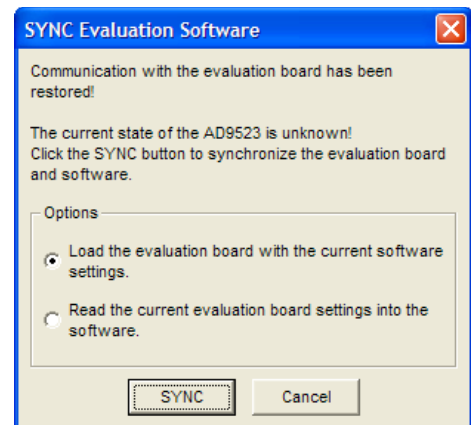

Figure 5. SYNC Evaluation Software Window
5. If you connect the evaluation board while the evaluation board software is running, the window shown in Figure 5 usually appears to prompt you to load the evaluation board with the evaluation board software settings or to read the current evaluation board settings into the software.